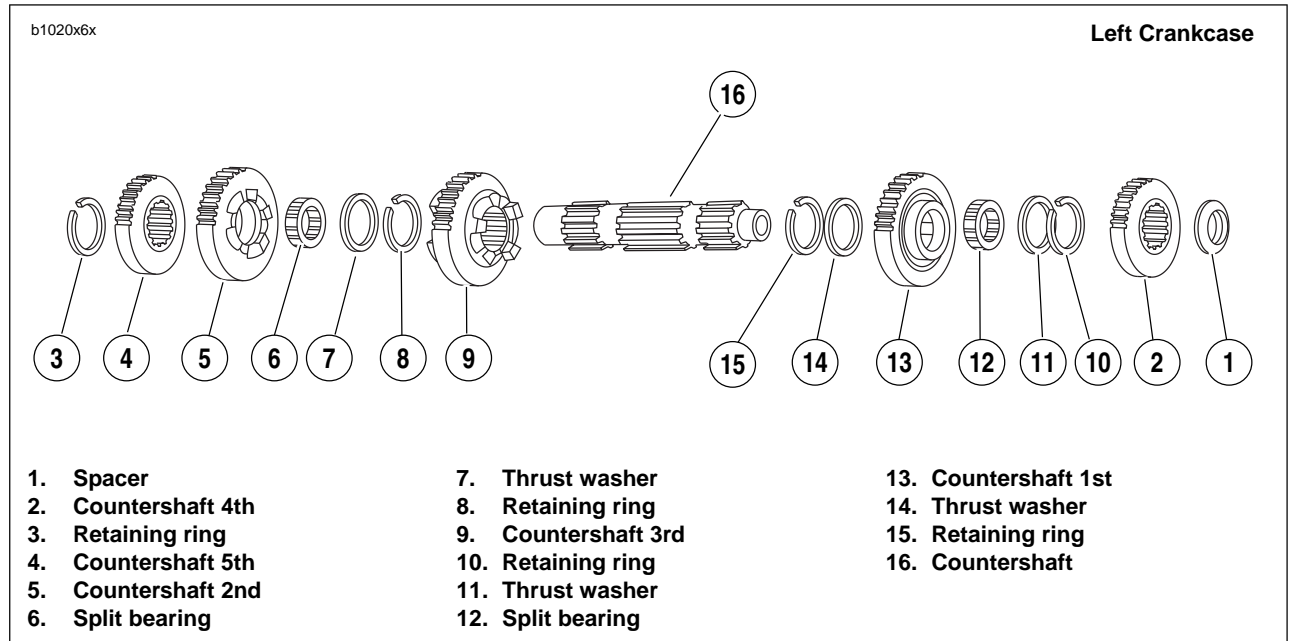

Figure 6-66. Transmission Countershaft Assembly Once Removed from Left Crankcase/Disassembly
1. See Figure 6-66. Remove spacer (1) and countershaft 4th gear (2) from the end of the of the countershaft with internal threads.
2. Using RETAINING RING PLIERS (Part No. J-5586), remove and discard retaining ring (3) next to countershaft 5th gear (4).
- a. Slide countershaft 5th (4), and countershaft 2nd (5) off end of countershaft.
- b. Remove split bearing (6) that was under countershaft 2nd gear (5) and thrust washer (7).
- c. Remove retaining ring (8) on the countershaft and slide countershaft 3rd gear (9) off free end of countershaft.
3. Expand retaining ring (10) located next to countershaft 1st gear (11). Remove retaining ring (10) and thrust washer (11).
- a. Slide countershaft 1st gear (13) off end of shaft.
- b. Remove split bearing (12).
4. Remove thrust washer (14). Expand remaining retaining ring (15) and slide off countershaft.